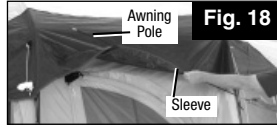

Fig. 18
2. Assemble thin, black, shock-corded Awning Pole with metal tips; then insert through sleeve in Rainfly above door. Repeat the process to install the awning pole at the opposite side of the tent. (Fig. 18)